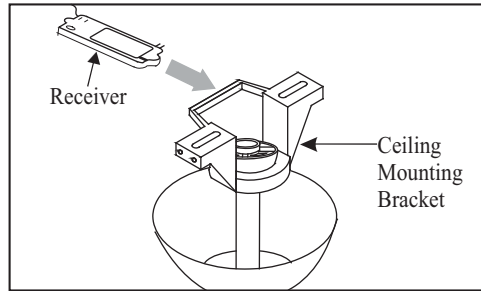

Figure 12
1. Insert the receiver into the mounting bracket with the flat side of the receiver facing the ceiling as Figure 12.